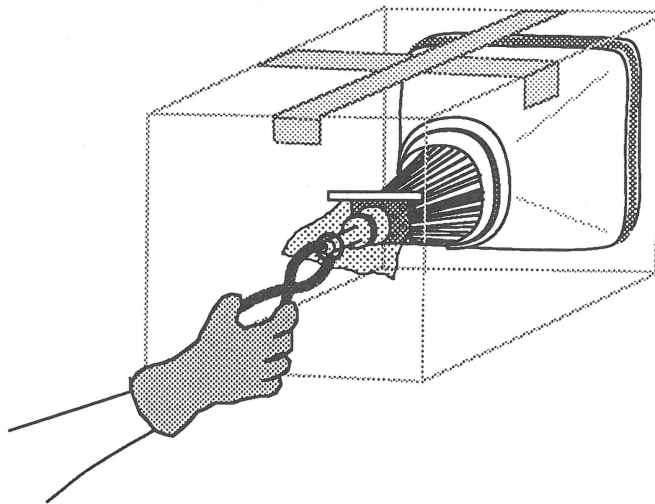

FIGURE 7
6. Tape the piece of cloth or paper onto the box (see Figure 7) so that it forms a veil over the opening, but allows your hand access to the tip of the CRT. The veil's purpose is to catch bits of glass that may fly during the following step.
7. Make sure no one is standing nearby. Place the pliers under the veil and stand to one side and look away while you use the pliers to snip off the exposed tip of the CRT (see Figure 7).